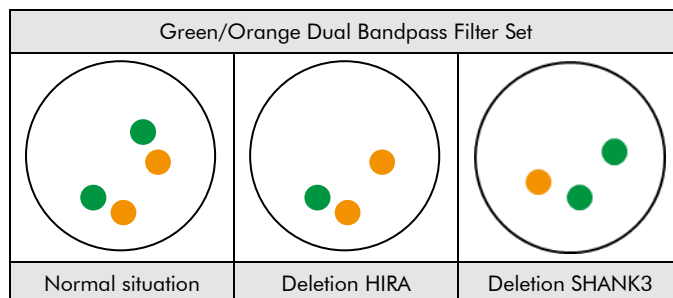

Fig. 2: Expected results in normal and aberrant nuclei
**Normal situation:** In interphases of normal cells or cells without a deletion involving the respective gene regions, two green and two orange signals appear (see Fig. 2).
**Aberrant situation:** In a cell with deletions affecting the HIRA gene region, a reduced number of green signals will be observed. Deletions affecting only parts of the HIRA gene region might result in a normal signal pattern with green signals of reduced size. In a cell with deletions affecting the SHANK3 gene region, a reduced number of orange signals will be observed. Deletions affecting only parts of the SHANK3 gene region might result in a normal signal pattern with orange signals of reduced size (see Fig. 2).